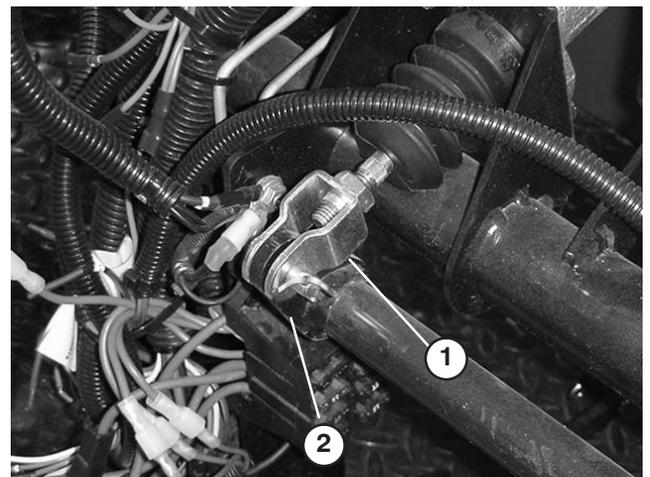

Figure 59
1. Remove cotter pin and clevis pin securing master cylinder yoke to brake pedal pivot (Fig. 59).
3. Loosen jam nuts securing yoke to master cylinder shaft (Fig. 59).